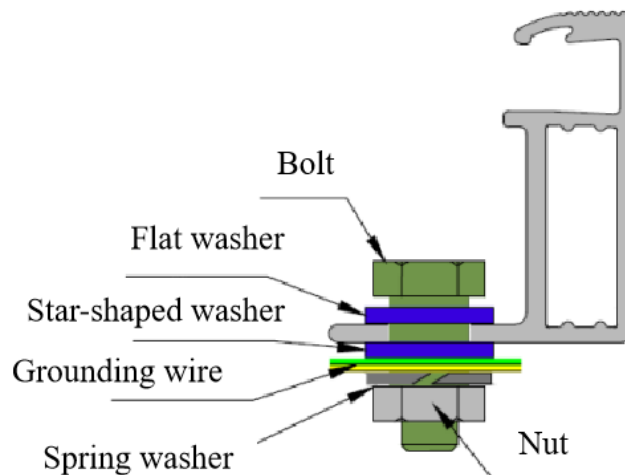

Figure 6 Module connection map
- c) When grounding, the grounding device must be fully in contact with the aluminum alloy interior and penetrate the oxide film on the surface. The following are specific grounding methods, as shown in Figure 6: